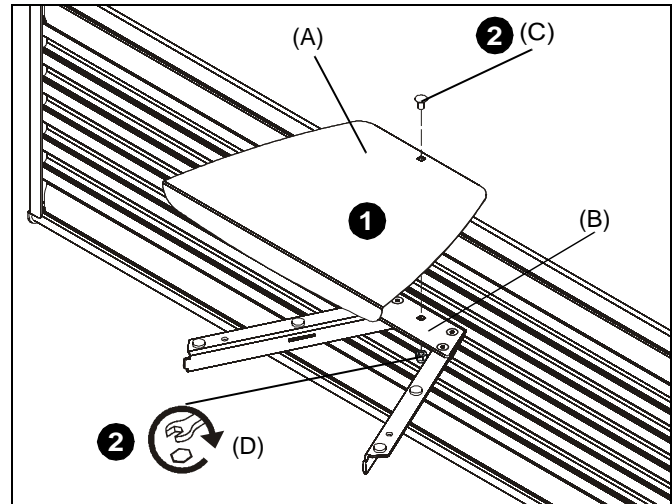

Figure 2
1. Align square mounting hole in shelf (A) with mounting hole in top of shelf base (B). (See Figure 2)
2. Secure shelf (A) to shelf base (B) using 1/4-20 x 1/2" carriage bolt (C) and 1/4-20" lock nut (D). (See Figure 2)